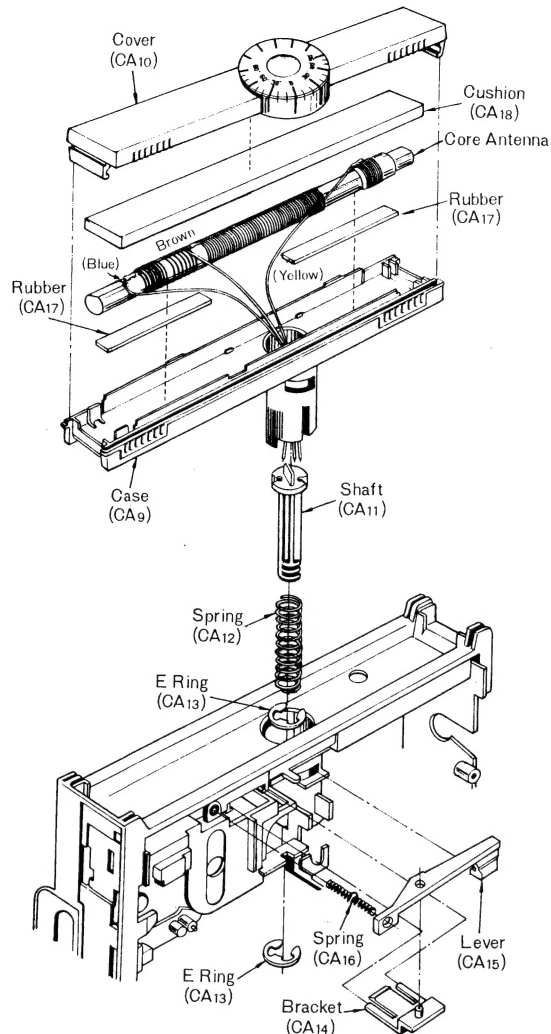
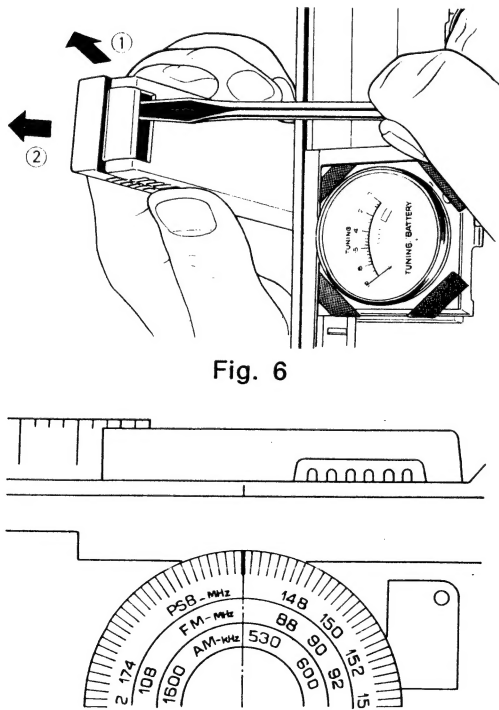

Fig. 5
Fig. 6
6. Remove E ring (CA 13) by driver as illustrated in fig. 5.
2. Remove gyro antenna case cover by driver as illustrated in fig. 6.
3. Unsolder three (3) lead wires from PC board.
- Note: When mounting core antenna to antenna case, wiring three (3) lead wires as illustrated in fig. 5.